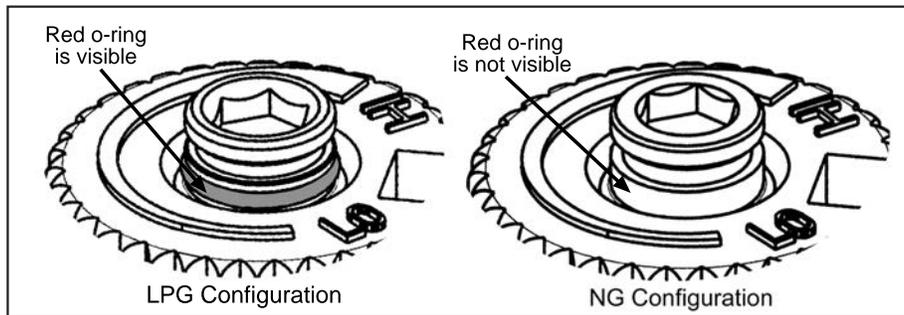

Figure 41: O-ring on valve screw.
- f) Verify that if the conversion is from NG to LPG, the screw must be re-assembled with the red o-ring visible (refer to Figure 41). If the conversion is from LPG to NG, the red o-ring of the screw must be not visible.